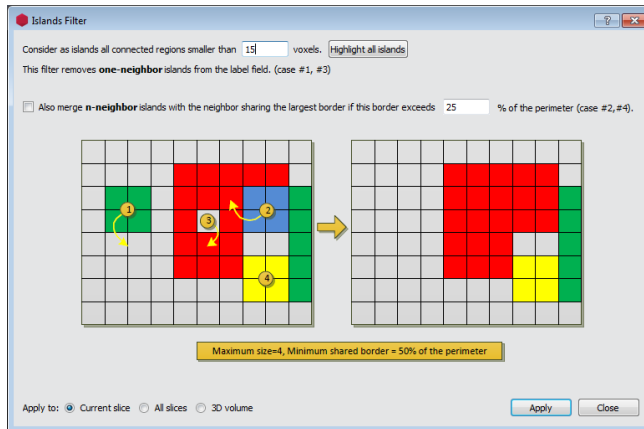

Figure 5.7: Islands filter dialog.
- In the *Segmentation* menu, select *Remove islands...* (see Figure 5.7).